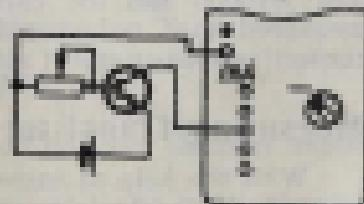

Fig. 7
2. Connect the 11437 instrument to the collector circuit (Fig. 7) and read the current intensity in the 10 mA sub-range (scale "—"). Full deflection of the pointer will correspond to $\beta=200$.
then, switching the 11307 instrument to the collector circuit (Fig. 7) the full deflection of pointer in the 10 mA sub-range will correspond to $\beta = 100$.